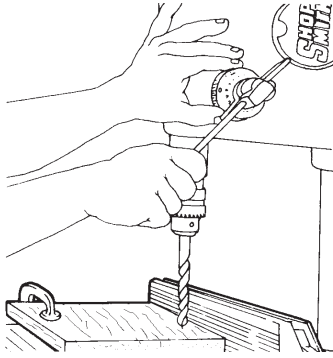

Figure C-24
5. Remove the stock and extend the quill so that the cutting flutes of the drill bit touch the scrap wood. Set the depth control to 1/8" and tighten the depth control lock. See Figure C-24. Then let the quill retract. Position the stock under the drill bit. Hold it against the table and rip fence. Extend the quill with the machine off to check where the drill bit will drill.